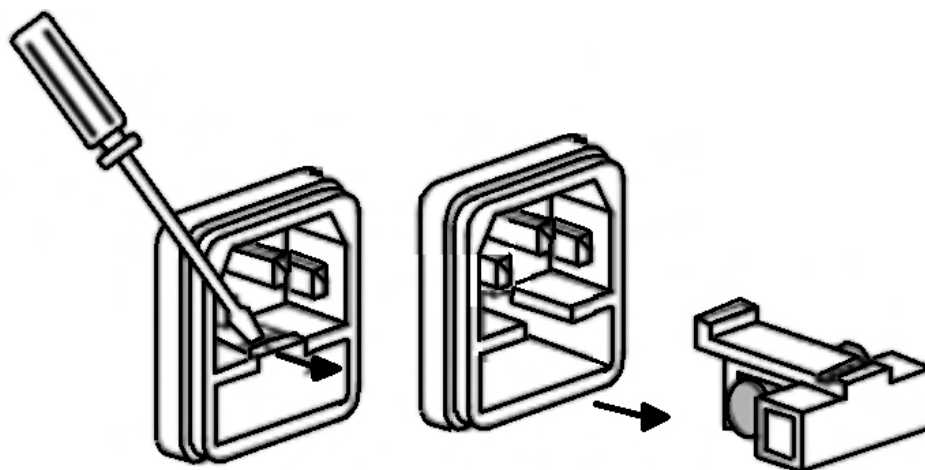

Figure 4.8 Fuse Removal
- Step 2.** Insert a small flathead screwdriver into the fuse box slit to slide out the fuse box as illustrated in figure 4.8.